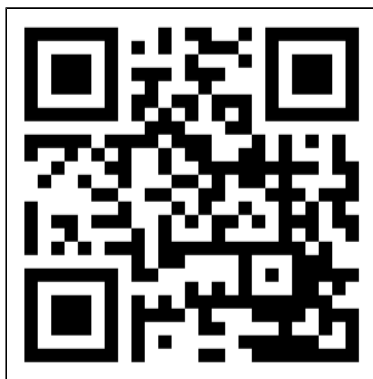

Figure 34.
1. Open the Eurom Smart App manual with the QR code (Figure 34) or go to www.eurom.nl/nl/manuals.